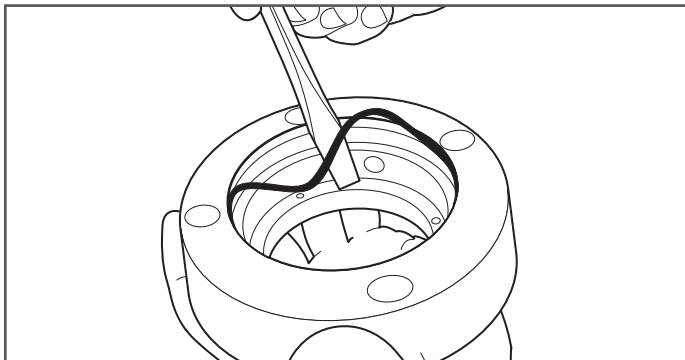

Figure 9-4
4. Remove inner O-ring on the middle section of DoubleTrac® fitting. Inspect O-ring for tears, scuffs, or any visible defect. Replace O-ring as needed (Figure 9-4).